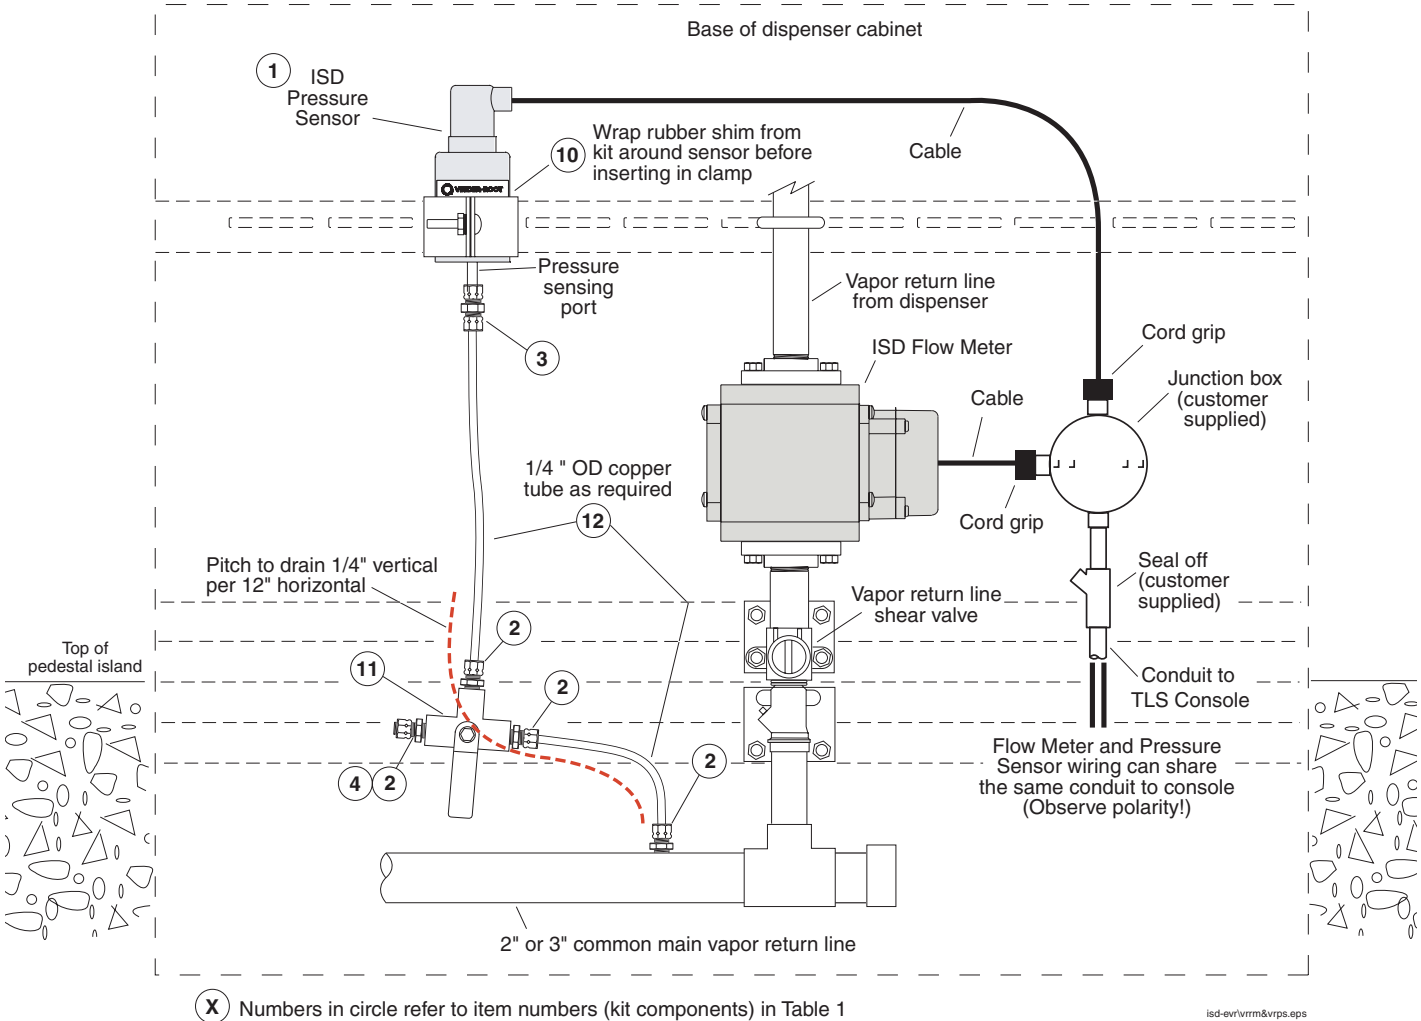

Figure 1. Example ISD Pressure Sensor Installation
- a. The main vapor return line (see Figure 1) - this is the preferred position,
4. Install one of the 68CA-4-4 male connectors (item 2 in Table 1) from the kit into the tapped hole.
5. Install ISD Pressure Sensor (item 1 in Table 1) vertically to the dispenser frame or piping using the 2-inch conduit clamp, rubber shim, and necessary bolts, nuts, and washers from the included Universal Sensor Mounting kit. Wrap the rubber shim (item 10 in Table 1) around the sensor before inserting it into the clamp. Also make sure the sensor cable outlet is facing up and the pressure sensing port tube in the base of the sensor is facing down.
6. Attach one end of the 62CA-4 union (item 3 in Table 1) to the pressure sensing port in the base of the ISD Pressure Sensor.
7. Install the remaining 68CA-4-4 male connectors (item 2 in Table 1) from the kit into each of the three ports in the 3-way calibration valve (item 13 in Table 1).
8. Measure, fabricate, and install a 1/4" OD copper tube (item 12 in Table 1) that runs between the 62CA-4 union in the base of the sensor and the center port of the 3-way calibration valve.
10. Screw the 59CA-4 plug, item 4, from the kit onto the last port's male connector. Make sure the valve's handle is set to connect the sensor to the vapor return line and not to the capped (ambient) port.